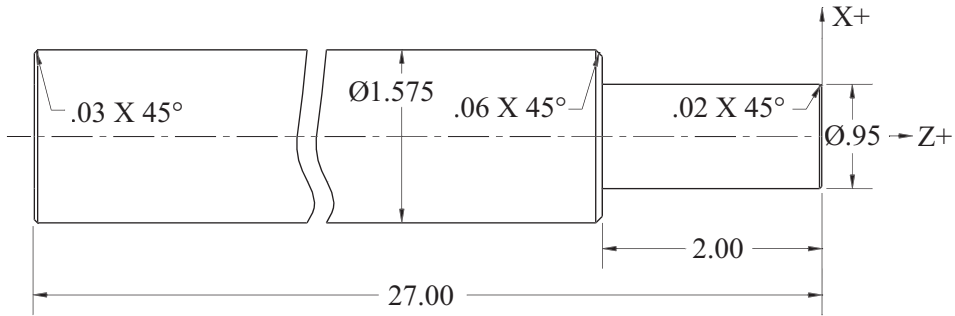

Figure 117 Drawing for Example of Long Shaft Turning
The sequence of operations for turning the shaft in the Figure 117 are: (1) face and chamfer the shaft from the left side; (2) the program stops when using function M00; (3) turn the shaft around 180°; and, (4) turn the remaining shaft end from the other side.